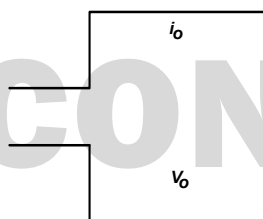
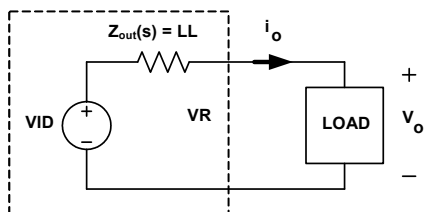

FIGURE 16. DESIRED LOAD TRANSIENT RESPONSE WAVEFORMS
FIGURE 22. VOLTAGE REGULATOR EQUIVALENT CIRCUIT
Assuming the compensator design is correct, Figure 16 shows the expected load transient response waveforms if C_n is correctly selected. When the load current i_{core} has a square change, the output voltage V_{core} also has a square response.
Figure 16 shows the desired load transient response waveforms. Figure 22 shows the equivalent circuit of a voltage regulator (VR) with the droop function. A VR is equivalent to a voltage source (= VID) and output impedance $Z_{out}(s)$. If $Z_{out}(s)$ is equal to the load line slope LL, i.e. constant output impedance, in the entire frequency range, V_o will have square response when I_o has a square change.